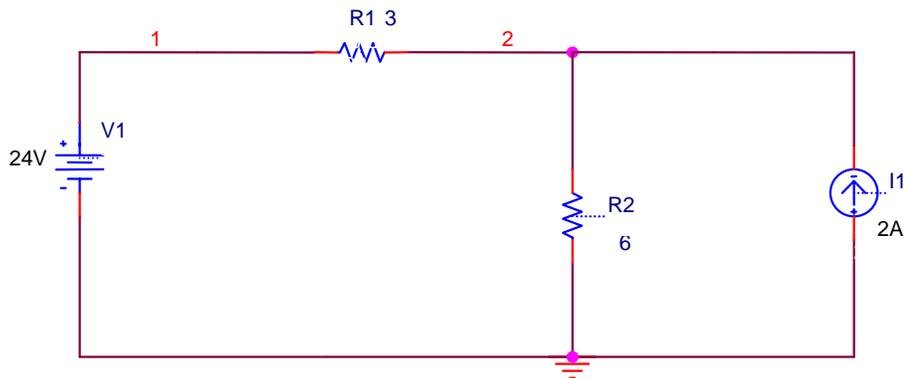

Figure 1.2 Circuit 1 after simulation with currents, voltages, and power shown.
- 6) The voltages and currents in the circuit may be displayed on the schematic by clicking on the big “V” and big “I” in the top tool bar. There is also a “W” which will also show the power in watts. The currents and voltages may be verified against the hand calculations. Figure 1.2 shows the circuit after simulation with the voltages, currents, and power displayed. It is easily seen that power absorbed = power delivered. Also Kirchoff's current law at node 2 it is easily verified.